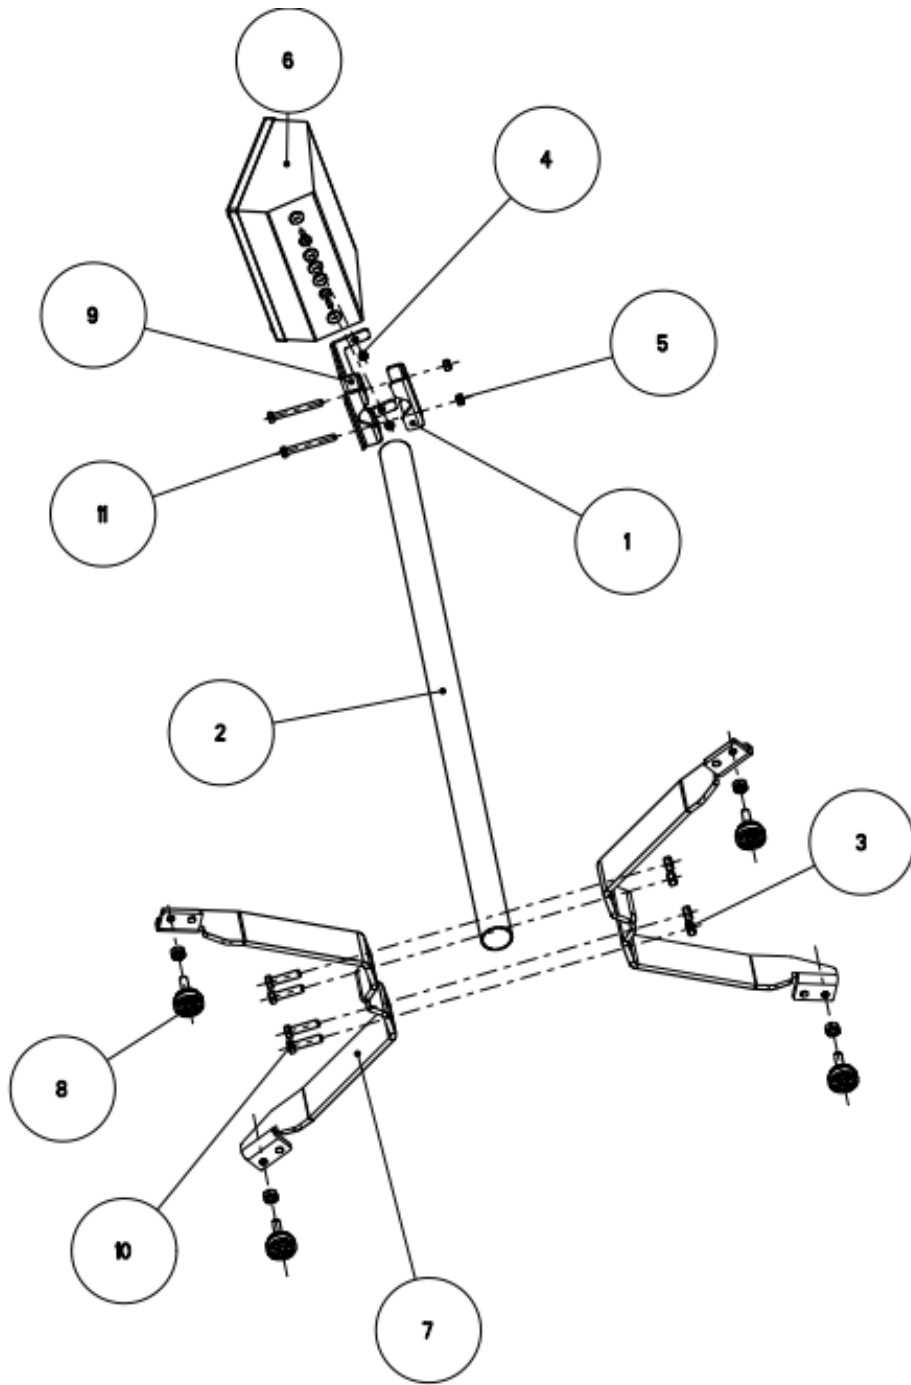

Fig.1
2.1 MONTAJE DE LA COLUMNA CSP38I (FIG.1)